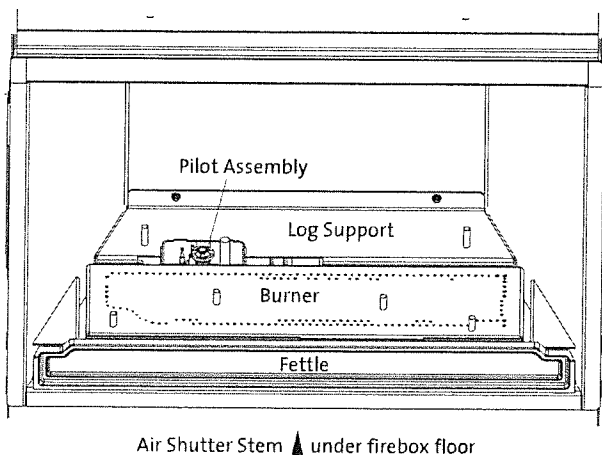

Figure 13. Firebox component identification.
- If you have not already done so, remove the fettle and log set from the firebox. **CAUTION: THE LOGS ARE FRAGILE.** Handle them with care and set aside out of the way. See fig. 13.
5. Replace the Burner Assembly: Slide the venturi tube into the Air Shutter and engage the tube fully over the orifice. The burner should engage with the three support brackets on the floor of the firebox. Properly located, the burner will be level and locked into correct alignment with the pilot assembly as in fig. 13.